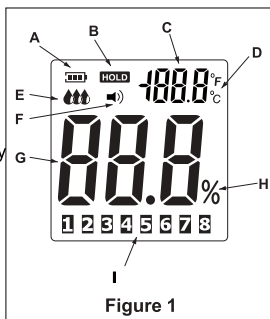

Figure 1
- Display instruction: see Figure 1